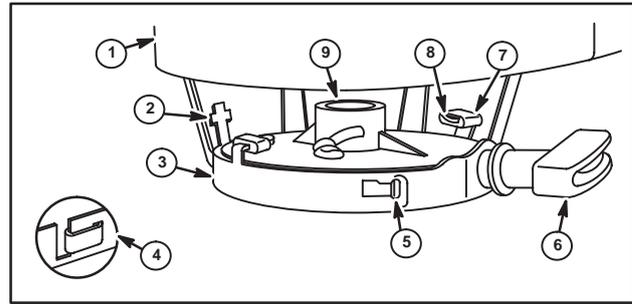

Fig. 1
- Blower housing (1)
- Unused tang (2)
- Rewind housing (3)
- Old-style rewind spring (4)
- Current style rewind spring (5)
- Rewind starter grip (6)
- Nylon bumper (7)
- Twisted tang (8)
- Pulley (9)
- (Figs. 1 and 2)